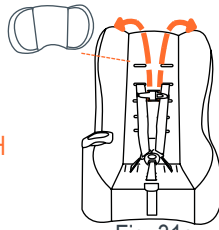

Fig. 31c
6. Pull seat fabric up and over the top of the car seat. Then, install the pillow (Fig. 31c).